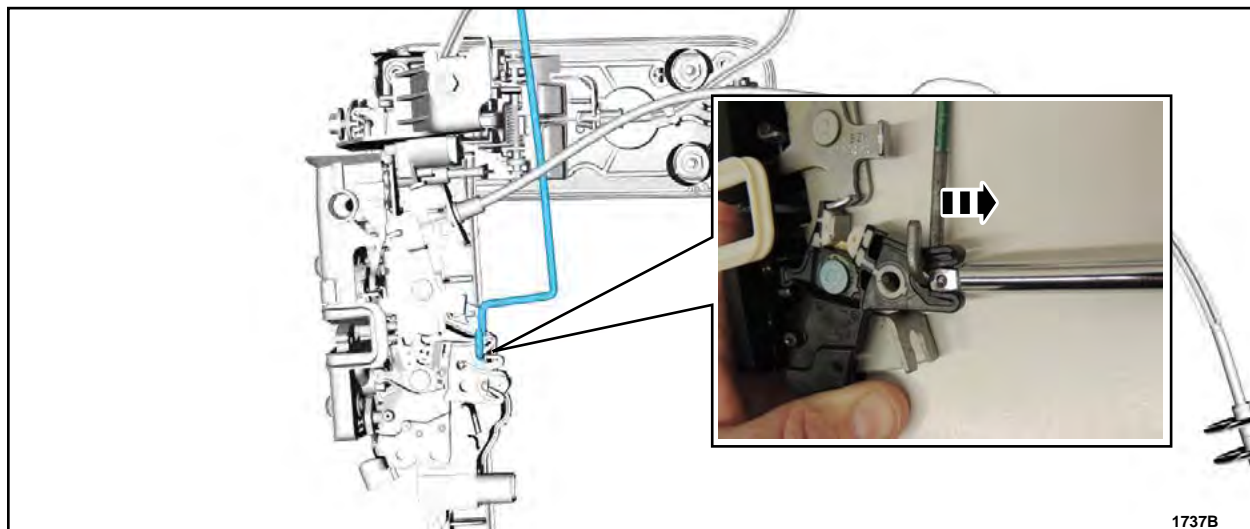

FIGURE 1
2. Remove the lock rod assemblies. See Figure 1.